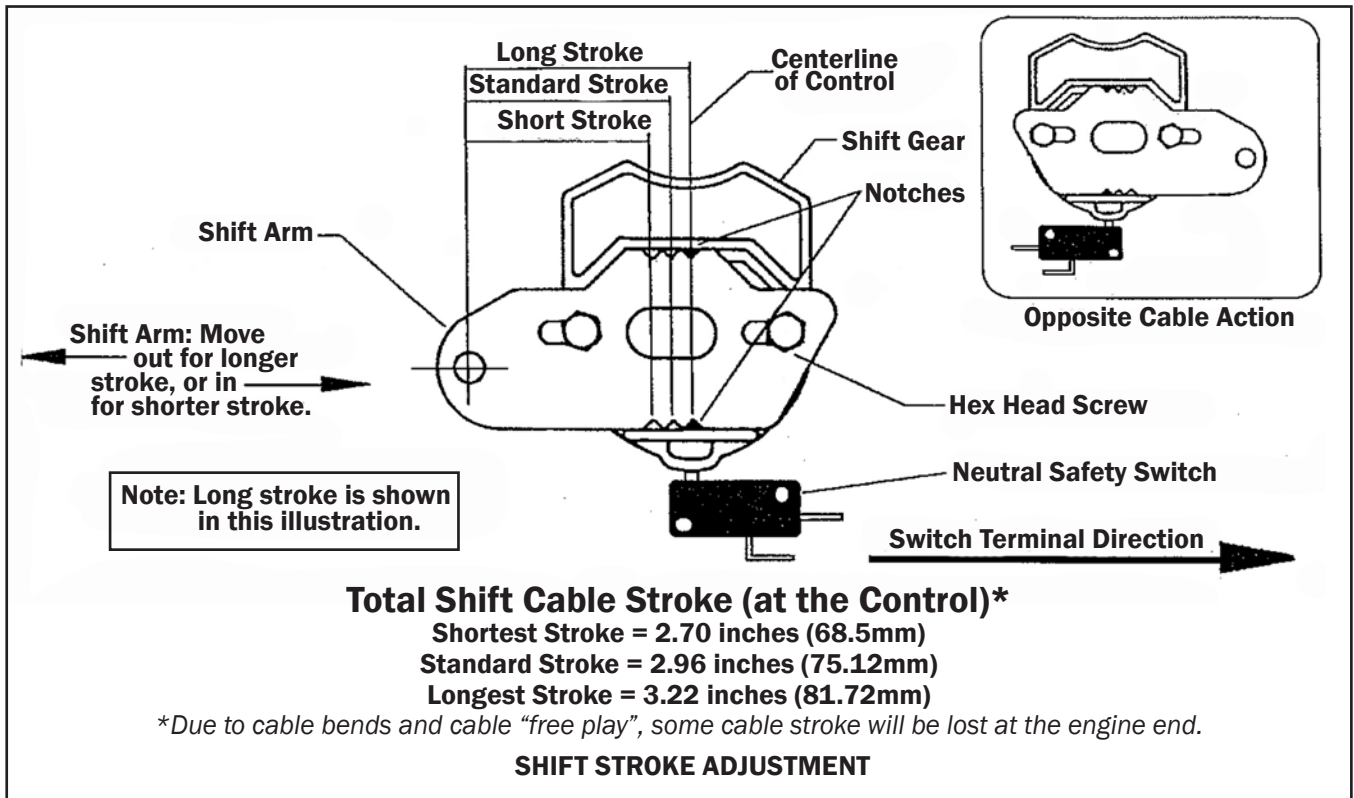

Figure 2.
- *Adjustable shift stroke to accommodate most transmission applications (refer to Figure 2).*
The Shift Arm is factory-set for standard travel (center notch). Refer to Figure 2.
STEP 1. Loosen the two (2) hex head cap screws so the Shift Arm can be lifted to clear the notches
STEP 2. Reposition the Shift Arm to the desired stroke. Be sure the notches are properly engaged before tightening the screws. Refer to Figure 2.